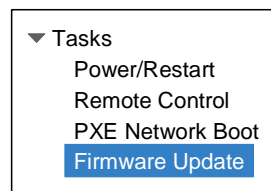

Figure 6-74 IMM menu bar
8. Click **Firmware Update** under Tasks, as shown in Figure 6-74.